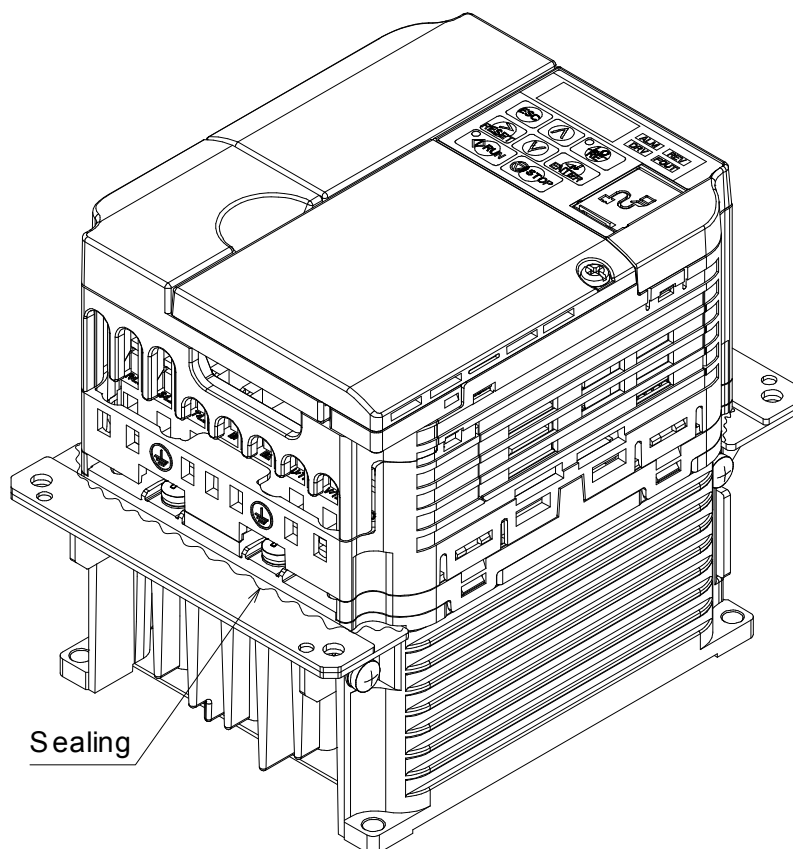

Figure 6: Dirty environment – Installation completed
1. In case that the gap between attachments and inverter is a problem, apply a sealing like shown in Figure 6.